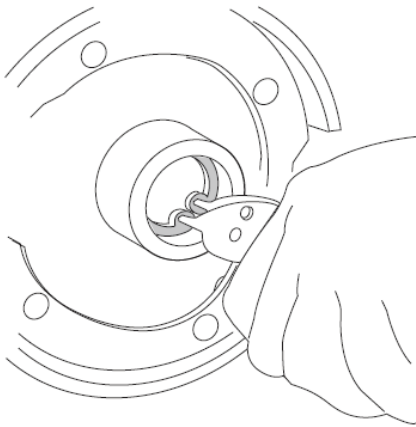

Fig. 6 Inner Snap Ring
4. Remove the inner snap ring (Ref Fig. 6).